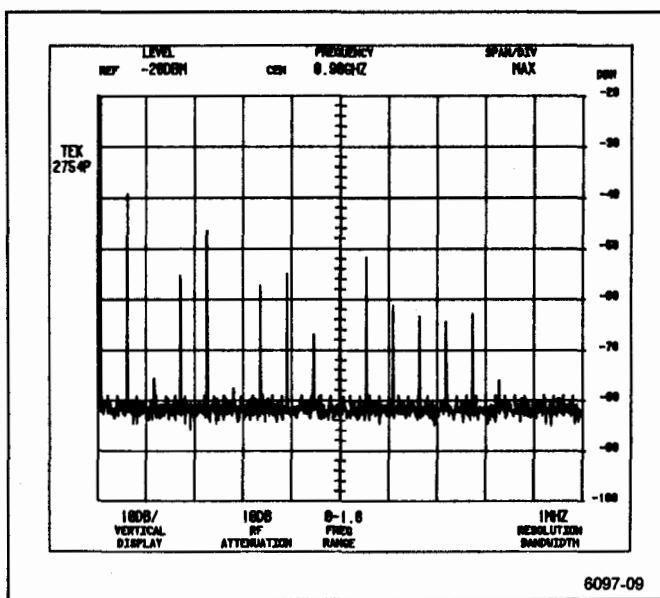

Figure 4-2. Typical display of calibrator signal in Max Span/Div.
g. Harmonics of the 100 MHz calibrator signal will be displayed as shown in Figure 4-2. To select 100 MHz center frequency, press the pushbutton sequence of FREQUENCY 100 MHz.